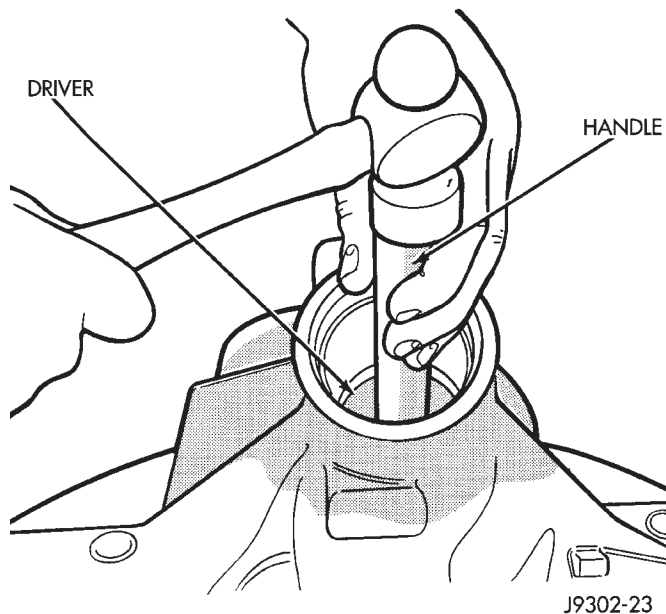

Fig. 24 Rear Bearing Cup Removal
(7) Using Remover D-159, remove the rear bearing cup from housing (Fig. 24).